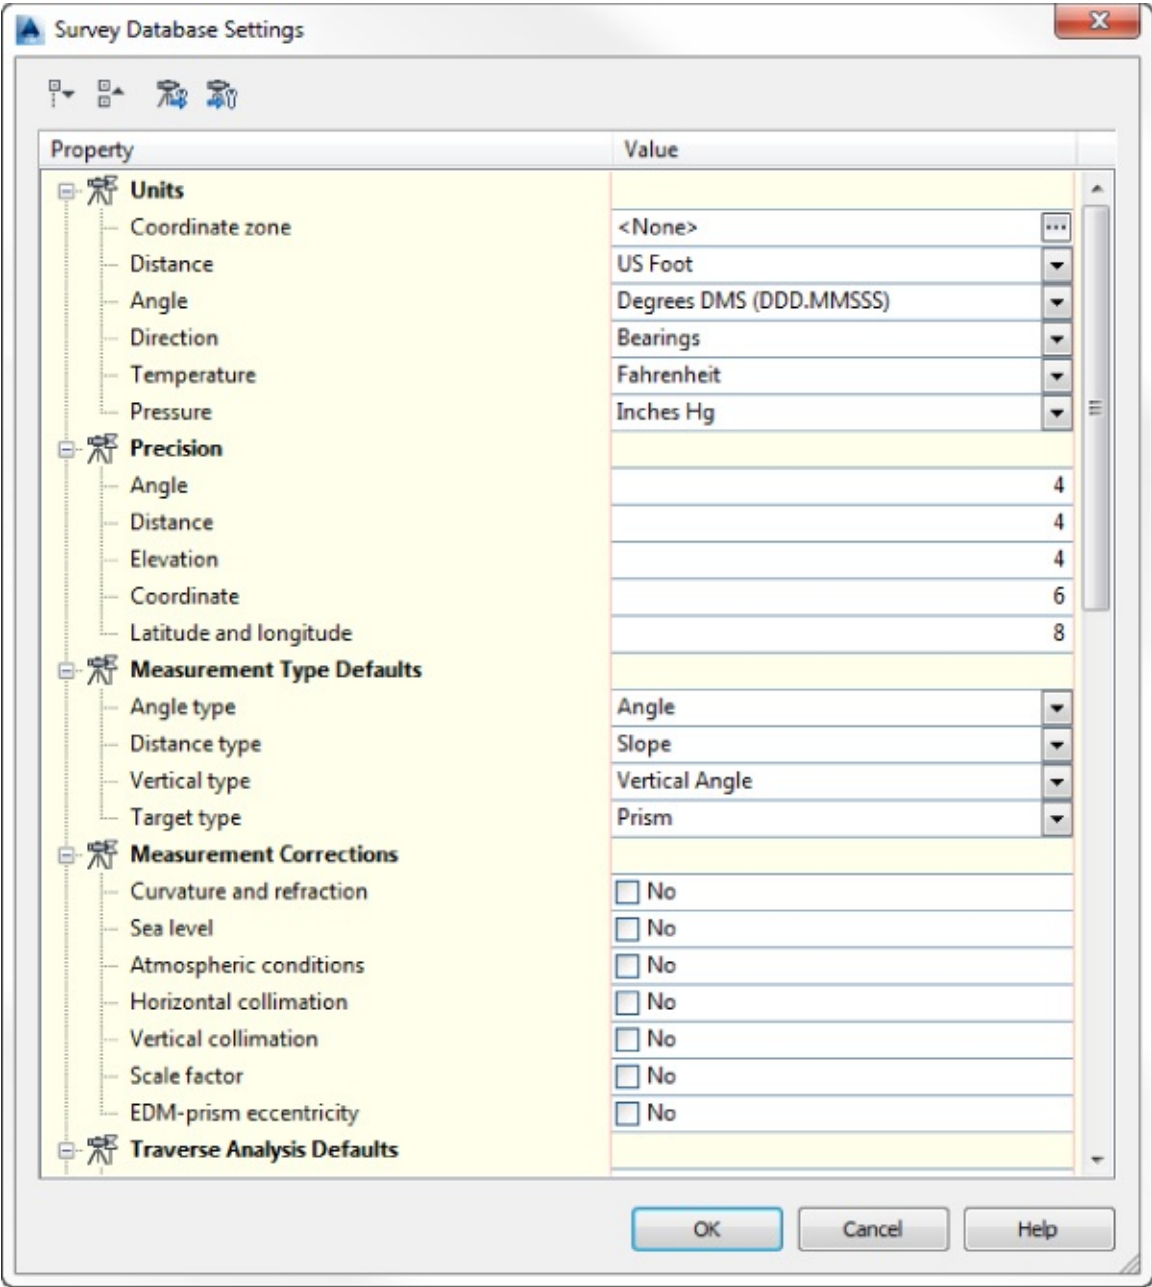

Figure 2.2 Survey Database Settings dialog
7. Set your desired defaults for units, precision, and other options, as shown in Figure 2.2.